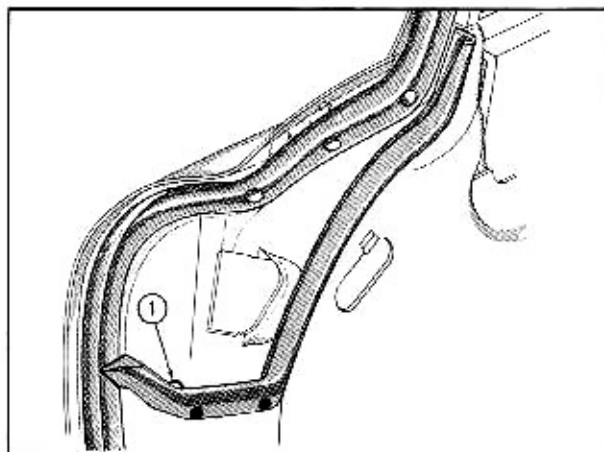

Fig. 3-5 Door Auxiliary Weatherstrip Position
2. Install two snap-on clips to weatherstrip, then install snap-on clips and lower portion of weatherstrip to pillar, aligning weatherstrip with drain hole. Install upper end of weatherstrip to door pillar as shown in Fig. 3-5. Weatherstrip must not cover drain hole, indicated at "1" in Fig. 3-5.